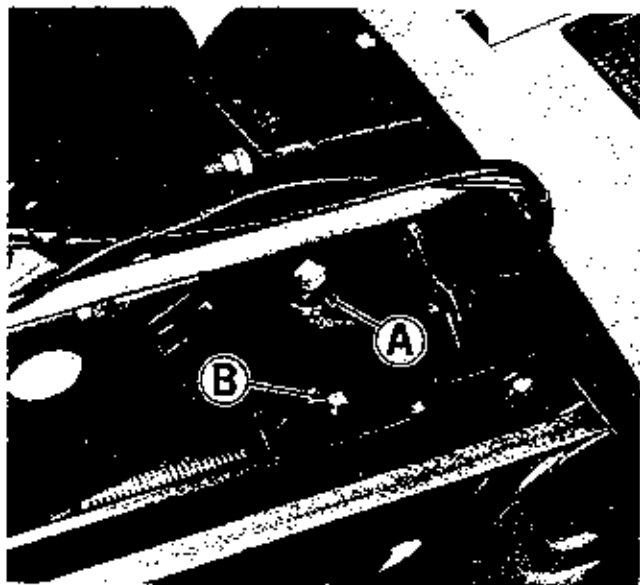

Figure 31. Bevel gear housing located under seat deck.
**CHECK BEVEL GEAR BOX OIL LEVEL:** See figure 31. The check and fill plug for the bevel gear box is located at (A). Remove it to check the oil level. The bevel gear box is properly filled when oil is visible at the bottom of the elbow. If filled to the top of the elbow, oil may be forced out the vent plug located on top of the bevel gear housing. If oil is required, add SAE 90 weight transmission oil. Fill only until oil can be seen in the bottom of the pipe elbow. If it should be necessary to drain the bevel gear housing, the drain plug is located at (B). Always tighten it securely when replacing to prevent oil leakage.